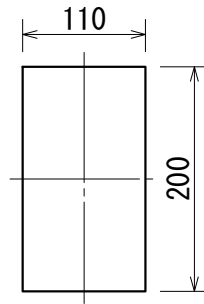

Figure 5 Panel Cutout Dimensions
(2) Embedding the NV-100M in a Panel
- ① Cut out a rectangular opening in the panel as shown in Figure 5.